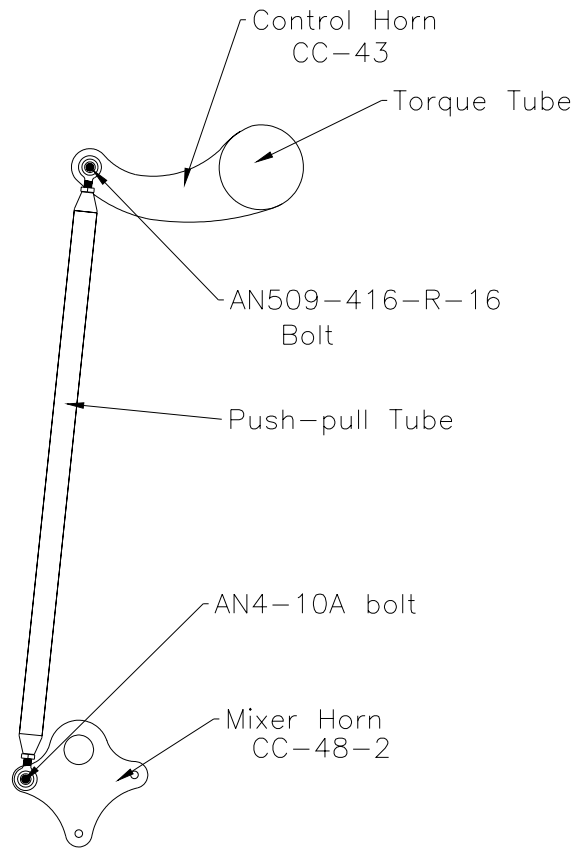

Figure 20.7.3
- 10) Adjust the rod-end bearings to fit between the mixer and horn on the torque tube. Figure 20.7.3. Bolt the push-pull tube to the torque tube horn with AN509-416-R-16 countersunk bolts, AN970-4 penny washer and AN365-428 fibernut.